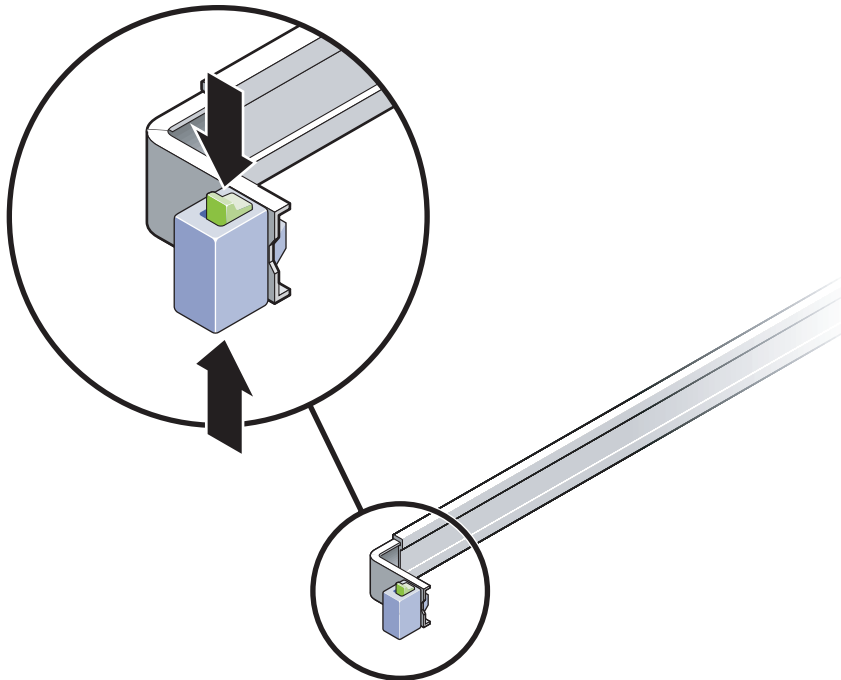

FIGURE 2-11 Unlocking the Slide Rail Assembly
- a. Simultaneously press and hold the upper and lower lock buttons of the slide rail lock (FIGURE 2-11).